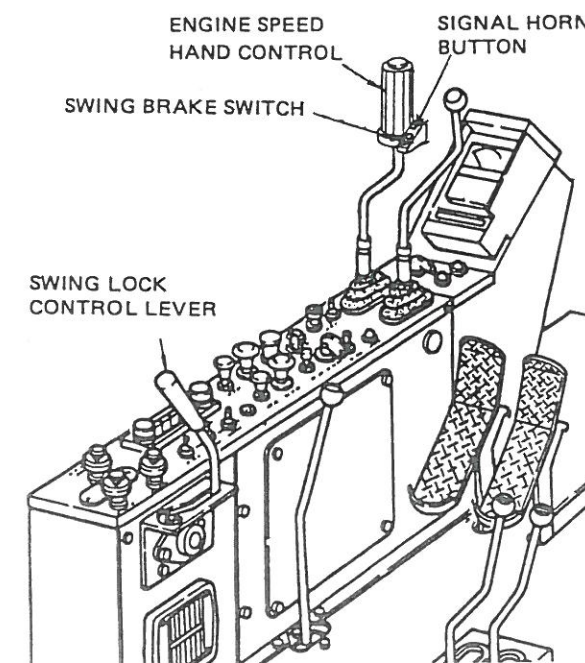

Figure 2-2. Swing Controls
13. SIGNAL HORN BUTTON. Depress this button to sound the signal horn. (See Fig. 2-2.)
14. ENGINE SPEED HAND THROTTLE. The engine speed hand throttle is mounted on the swing control lever (05) (See Fig. 2-2.) Turn the handle counterclockwise (looking from above) to increase engine speed. Turn the handle clockwise to decrease engine speed.